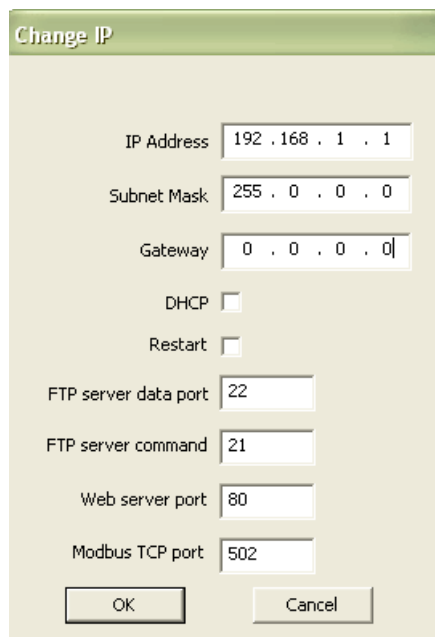

Fig. 15. Change of IP settings
Selecting *Change IP* causes the appearance of window that enables for configuration of the following settings (fig. 15):
- Change IP - allows for configuration of a device in a way presented on the fig. 15 in the point 5.2.3. First run using LAN interface.